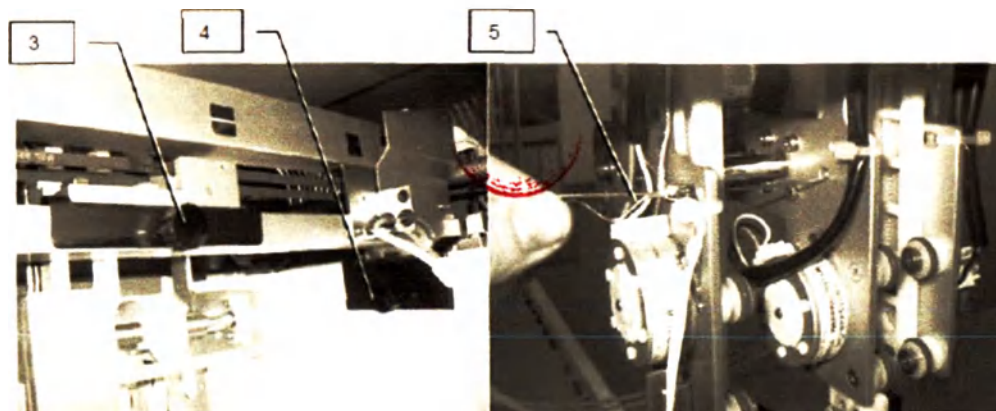

Figure 4
Next, remove the screws pos. 3 and 4 (Figure 4) and the corresponding anchor brackets. Remove the Z-block holder Pos. 5.